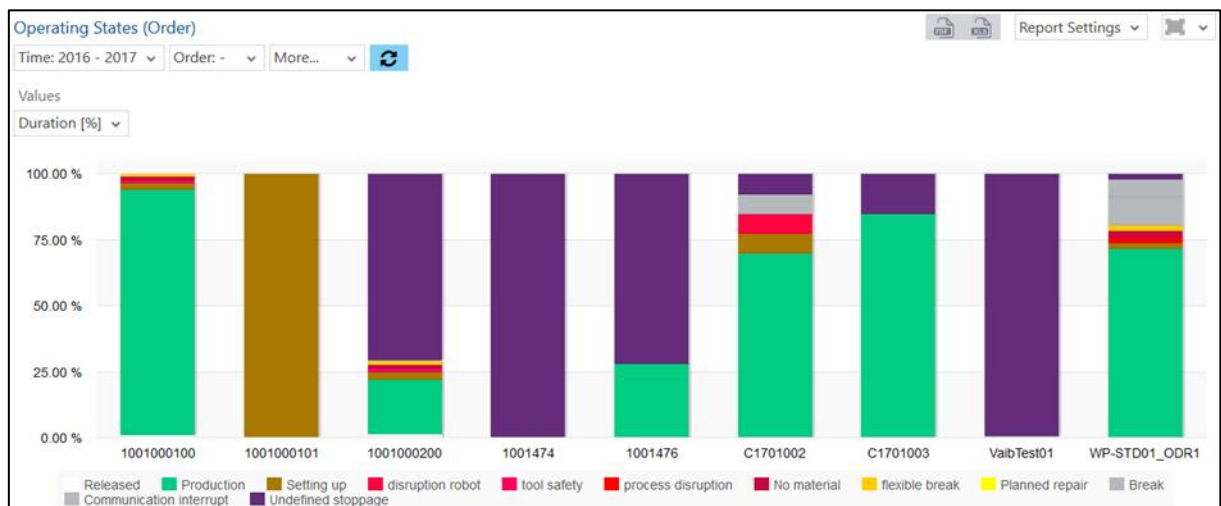

Fig. 81: Operating state report (order) as column chart
- Operating state report (order) as column chart (fig. 81):